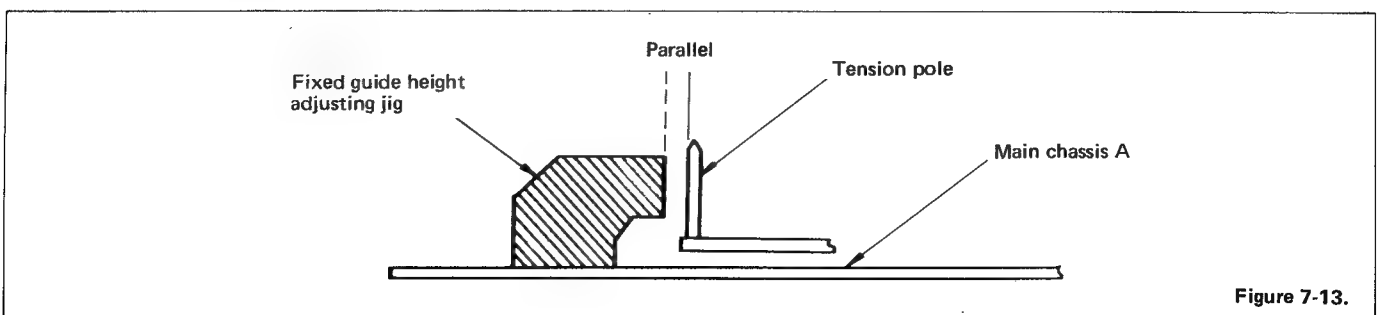

Figure 7-13.
- 2) Install the fixed guide height adjusting jib as shown in Figure 7-13.